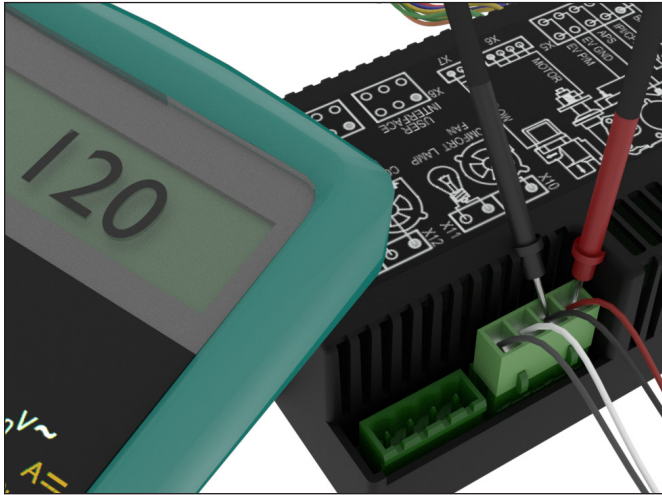

Figure 13: Voltage Test on Fan
2. **CAREFUL - DANGER OF SHOCK.** Place one probe on red wire, other on the black lead (see Figure 13).